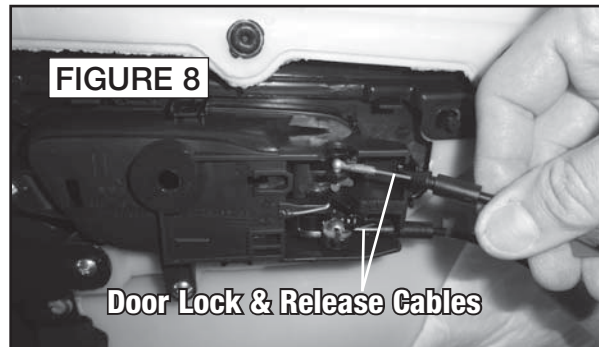

FIGURE 8
7. Pry out sides and bottom of door panel to release nine (9) clips. Disconnect wiring harnesses, **door lock and release cables**. Remove panel (Figures 8 & 9).
8. Pull rear door gasket away from body along rear pillar trimpanel (Figure 8).